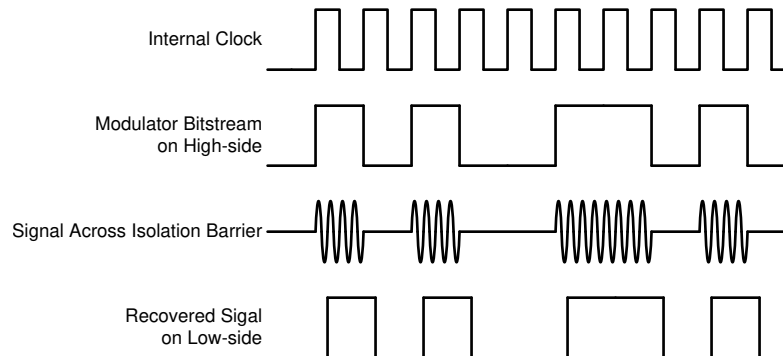

图 7-1. OOK-Based Modulation Scheme
The AMC1302-Q1 uses an on-off keying (OOK) modulation scheme, as shown in 图 7-1, to transmit the modulator output bitstream across the SiO₂-based isolation barrier. The transmit driver (TX) shown in the Functional Block Diagram transmits an internally-generated, high-frequency carrier across the isolation barrier to represent a digital *one* and does not send a signal to represent a digital *zero*. The nominal frequency of the carrier used inside the AMC1302-Q1 is 480 MHz.